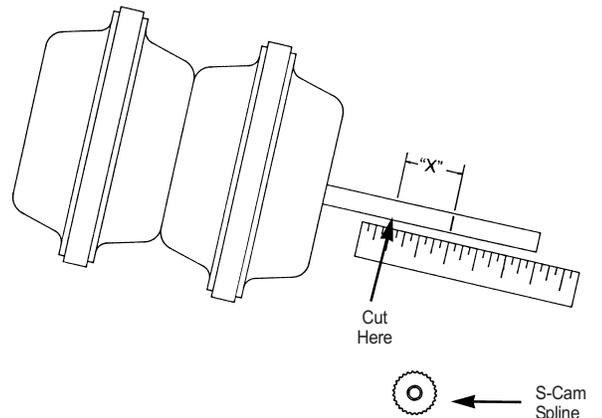

Figure 11 – Cutting the Push Rod
4. From the 90 degree mark, measure back toward the air chamber the proper "X" distance from the following chart. Mark the push rod at the "X" dimension. Cut the push rod at this mark. (see Figure 11) The clevis is now ready to install on the push rod.